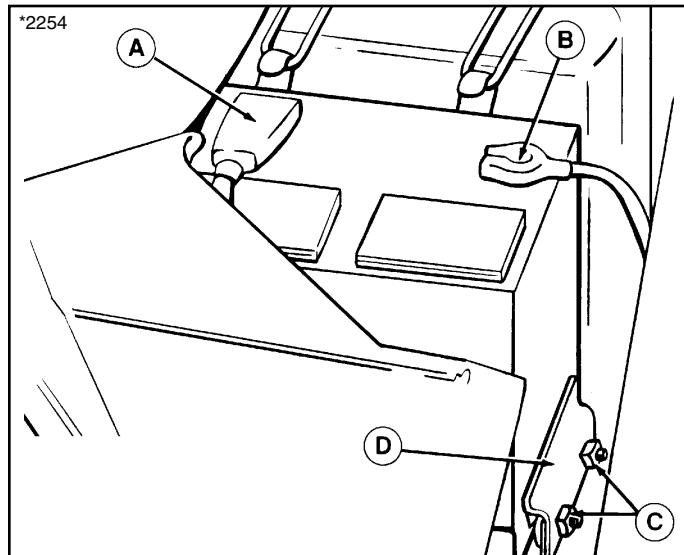

Figure 16. Battery Compartment
1. Disconnect the cables from the battery, negative cable first (B, figure 16).